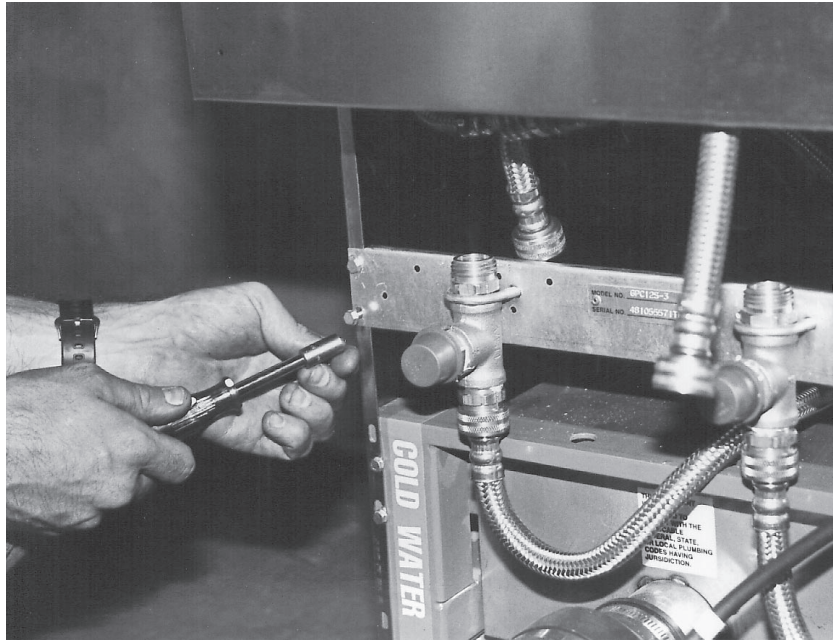

Fig. 79
4. With a $\frac{5}{16}$ " socket, remove (4) screws holding the rinse station support back bracket. (Fig. 79)